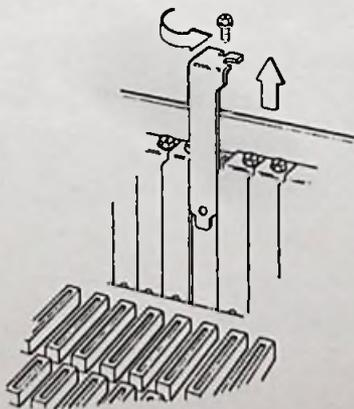

Figure 10. Removing the Expansion Slot Cover
5. Find an available expansion slot and remove the screw that holds the slot cover in place. Then remove the expansion slot cover. See Figure 10.